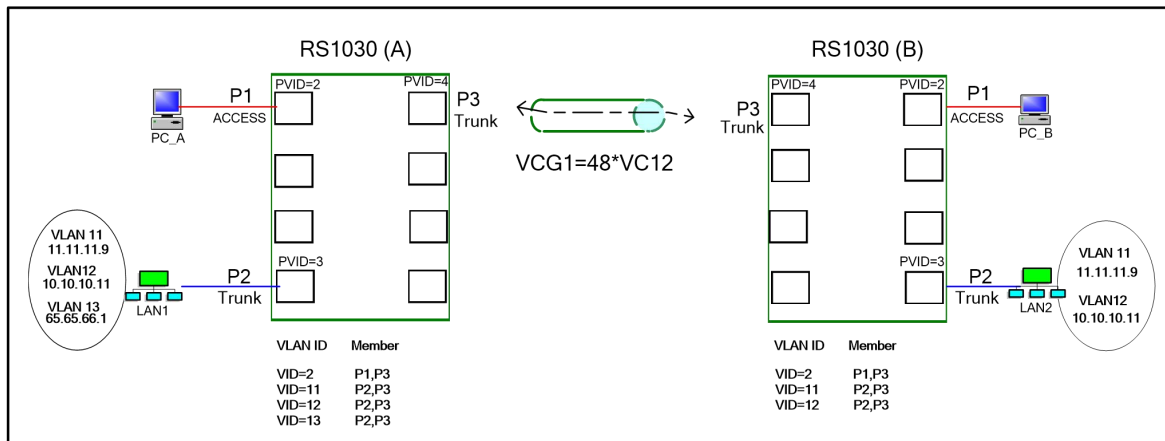

Fig. 5-7-2-3-1 Typical Application for 802.1Q Tag-based VLAN
As Fig. 5-7-2-3-1 shows, the port P1 of the two equipments connects to a PC separately, and port P2 connects to a LAN separately. The following communication can be implemented by VCG channel.
- 1) Port P1 in Fig. 5-7-2-3-1 is LAN1 port, P2 is LAN4 port, and P3 is WAN1 port;
- 2) Port P2 of BD-MSOT (A) belongs to three different VLANs: VLAN11, VLAN12 and VLAN13; port P2 of BD-MSOT (B) belongs to VLAN11 and VLAN12. The isolation of the three VLANs is implemented by other routers.